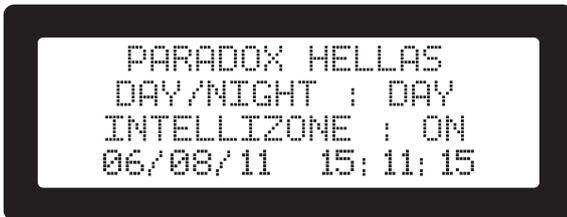

Figure 40. Main screen day/night mode screen
When the Day/Night feature is active, it is always displayed on the main screen and the current state (day or night mode) is shown (see Figure 40 below).
**The siren output of an extinguishing area (relay 1) will not follow the constant or ANSI option for audible devices. The output patterns is always as shown on figure 40, "Cross-zoning siren output patterns".**